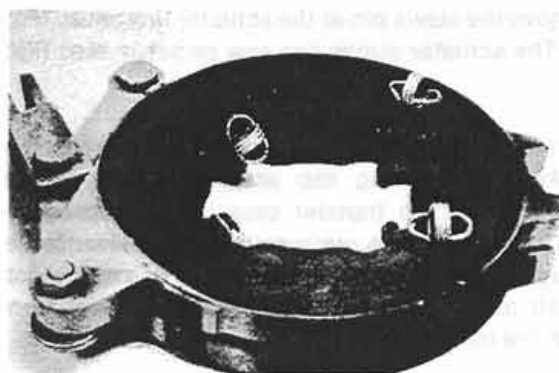

Figure 6:
5. Release the actuator return springs (Fig. 6), then